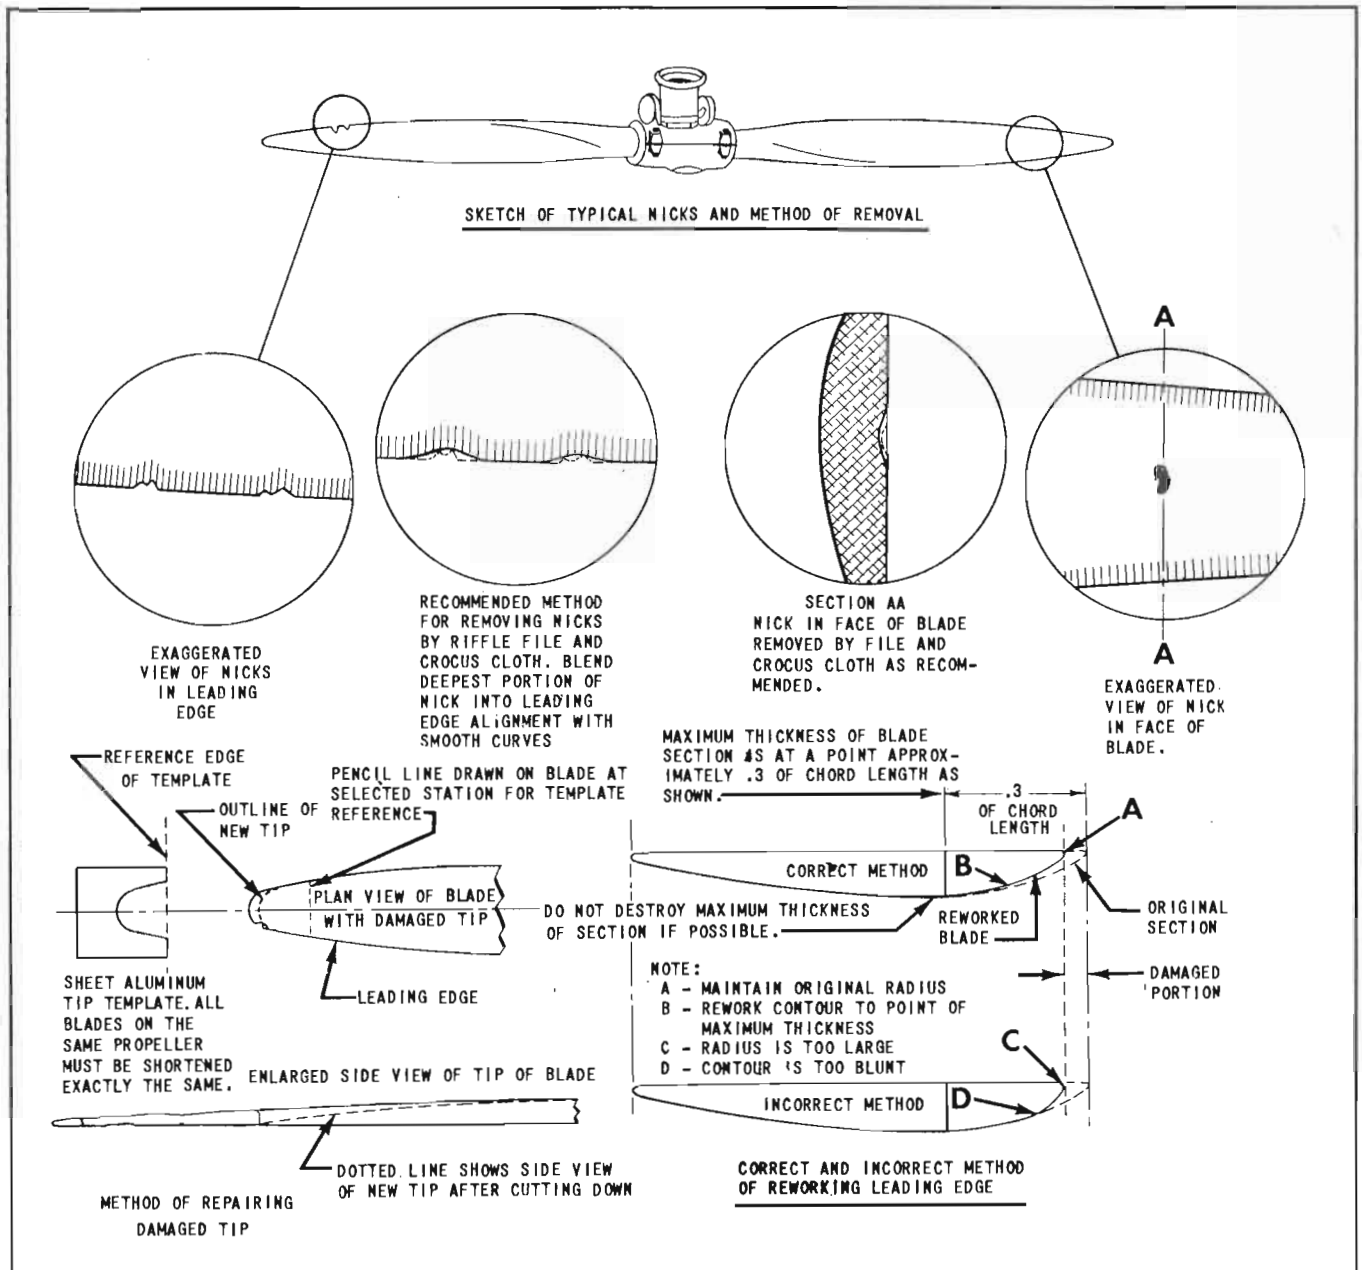

Figure 150 — Method of Repair
emery or crocus cloth. This rework is shown in figure 150.
reoperation is shown in figure 150.) Severe cuts or indentations which can be removed within the limitations of bullet damage can be treated the same as bullet damage.
h. Bullet damage to the leading and trailing edges must be repaired in accordance with the present procedure for "nicks" and "cuts" as shown in figure 150.